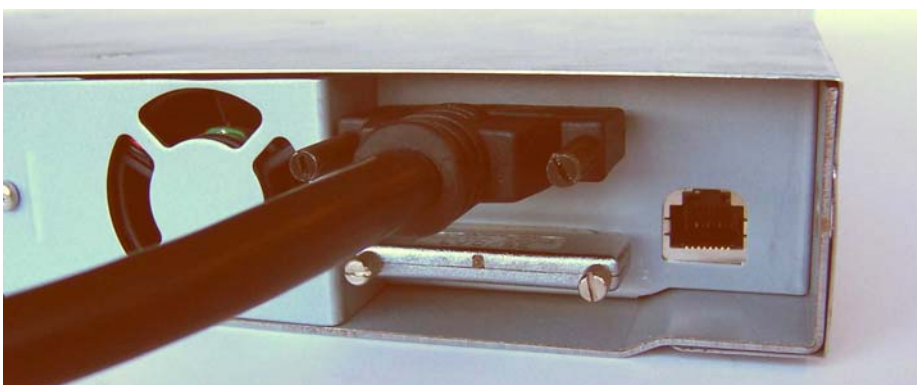

Figure 11. SCSI cable and SCSI terminator connection
1. On the rear of the FastStor 1, attach the SCSI cable's device connector to the upper SCSI connector. (See Figure 11.)
1. Insert one end of the cable into the FastStor 1 Ethernet port. Push until it snaps into place. (The open port shown in Figure 11 is for Ethernet connection.)